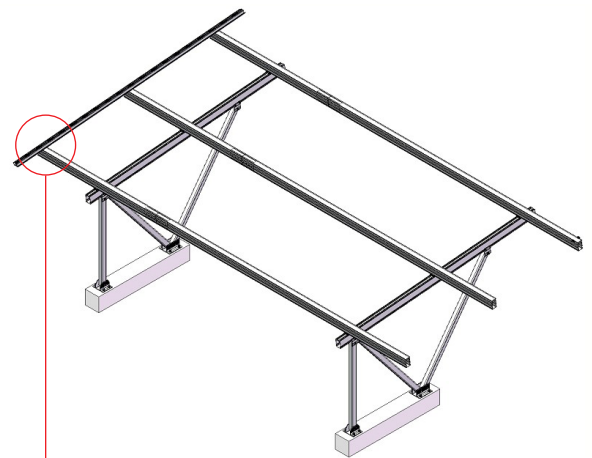

Figure 15
5.3.1 Place one Rail 60 with Water Channel on T-Rail 168 as shown in Figure 15.